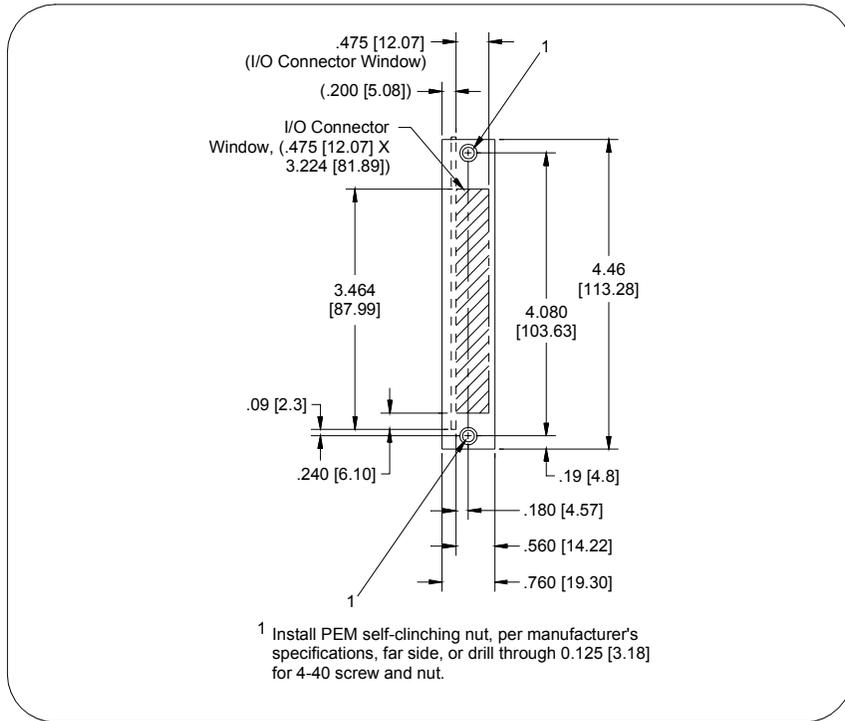
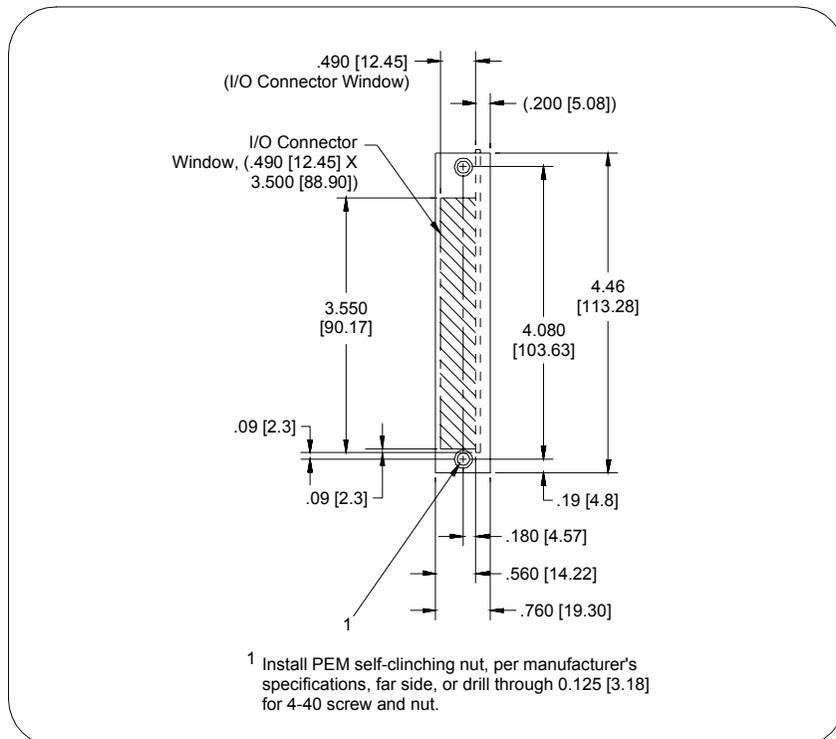

Figure 6-6. Front View of PCI Board Front Panel Bracket
Figure 6-7. Front View of ISA Board Front Panel Bracket
- 4 For guidelines to build your custom-designed bracket, see Figure 6-6 for a front view of the PCI Board Expansion Bracket or Figure 6-7 for a front view of the ISA Board Expansion Bracket. In the drawings, dimensions are shown as inches [millimeters].